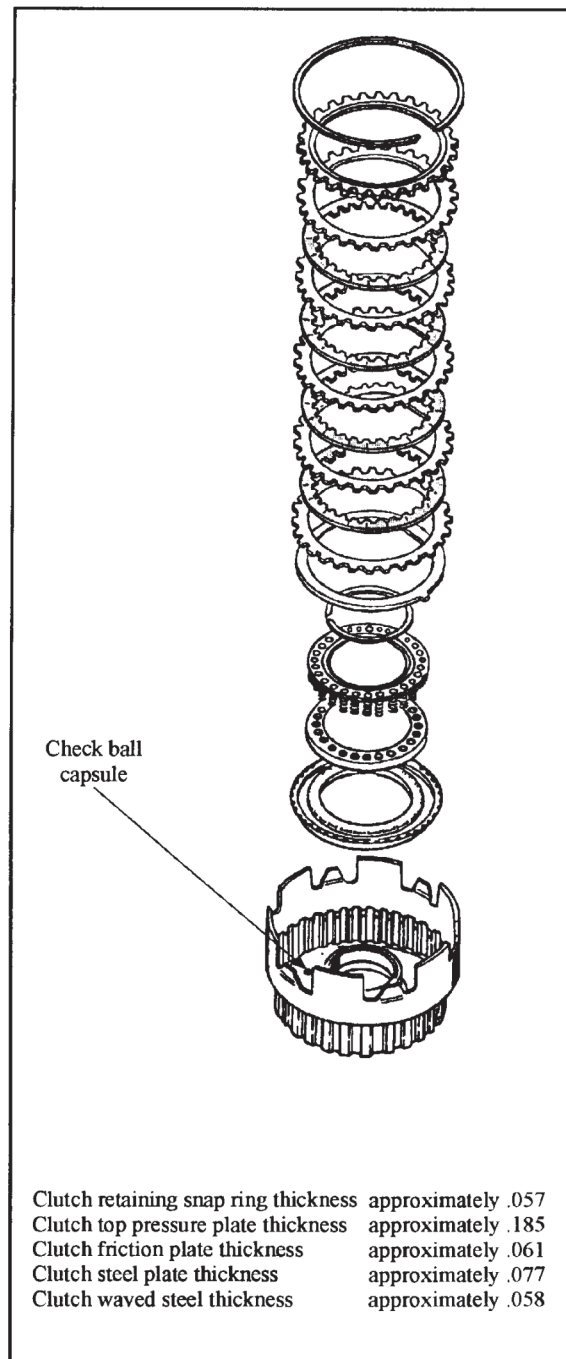

Figure 128
19. Inspect the K2 drum and insure that the check ball capsule is in good condition and not leaking (See Figure 128).
23. Install the waved cushion plate in the drum and stack remaining clutches and steels as follows: steel, friction, steel, friction, steel, friction, steel, pressure plate (See Figure 128).